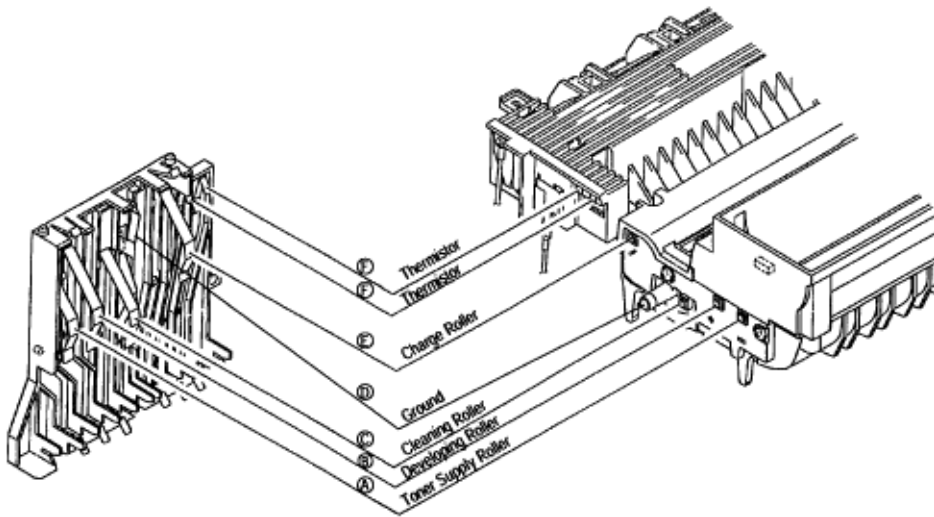

Figure 6-5
- ▼ Yes Is the contact of the image drum cartridge contacted with the ground contact properly. (See Figure 6-5 ①.)
(See Figure 6-5.)
(See Figure 6-5 (A), (B), (C), (D), (E).)
(See Figure 6-5 (G).)